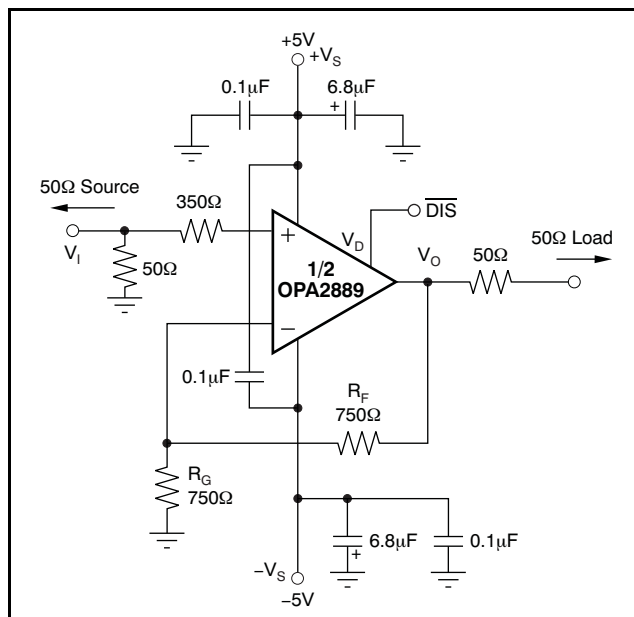
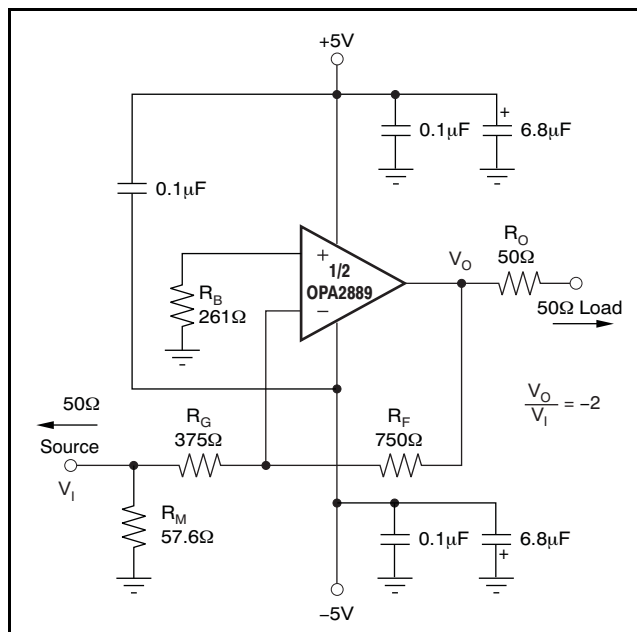

Figure 50. DC-Coupled, G = +2, Bipolar Supply, Specification and Test Circuit
Figure 60. Gain of $-2V/V$ Example Circuit
At $T_A = +25^\circ C$, $G = +2V/V$, $R_F = 750\Omega$, and $R_L = 100\Omega$, unless otherwise noted. See Figure 50.
Figure 50 shows the dc-coupled, gain of +2V/V, dual power-supply circuit configuration used as the basis of the ± 5 V Electrical Characteristics and ± 5 V Typical Characteristics. This illustration is for one channel; the other channel is connected similarly. For test purposes, the input impedance is set to 50 Ω with a resistor to ground and the output impedance is set to 100 Ω . Voltage swings reported in the Electrical Characteristics are taken directly at the input and output pins, while output powers (dBm) are at the matched 50 Ω load. For the circuit of Figure 50, the total effective load will be 100 Ω || 1.5k Ω . The disable control line (MSOP-10 package only) is typically left open for normal amplifier operation. Two optional components are included in Figure 50. An additional resistor (350 Ω) is included in series with the noninverting input. Combined with the 25 Ω dc source resistance looking back towards the signal generator, this resistor gives an input bias current cancelling resistance that matches the 375 Ω source resistance seen at the inverting input (see the DC Accuracy and Offset Control section). In addition to the usual power-supply decoupling capacitors to ground, a 0.1 μ F capacitor is included between the two power-supply pins. In practical printed circuit board (PCB) layouts, this optional-added capacitor typically improves the 2nd-harmonic distortion performance by 3dB to 6dB.
A good rule of thumb is to target the parallel combination of R_F and R_G (see Figure 50) to be less than approximately 400Ω. The combined impedance $R_F \parallel R_G$ interacts with the inverting input capacitance, placing an additional pole in the feedback network and thus, a zero in the forward response. Assuming a 2pF total parasitic on the inverting node, holding $R_F \parallel R_G < 400\Omega$ keeps this pole above 160MHz. By itself, this constraint implies that the feedback resistor R_F can increase to several kΩ at high gains. This increase in resistor size is acceptable as long as the pole formed by R_F and any parasitic capacitance appearing in parallel is kept out of the frequency range of interest.
Voltage-feedback op amps exhibit decreasing closed-loop bandwidth as the signal gain increases. In theory, this relationship is described by the Gain Bandwidth Product (GBP) shown in the Electrical Characteristics. Ideally, dividing GBP by the noninverting signal gain (also called the Noise Gain, or NG) predicts the closed-loop bandwidth. In practice, this principle only holds true when the phase margin approaches 90°, as it does in high gain configurations. At low gains (increased feedback factors), most amplifiers exhibit a more complex response with lower phase margin. The OPA2889 is compensated to give a slightly peaked response in a noninverting gain of 2V/V (see Figure 50). This compensation results in a typical gain of +2V/V bandwidth of 60MHz, far exceeding that predicted by dividing the 75MHz GBP by 2. Increasing the gain causes the phase margin to approach 90° and the bandwidth to more closely approach the predicted value of (GBP/NG). At a gain of +10, the 8MHz bandwidth shown in the Electrical Characteristics agrees closely with that predicted using the simple formula and the typical GBP of 75MHz.
The frequency response in a gain of +2V/V may be modified to achieve exceptional flatness simply by increasing the noise gain to 2.5V/V. One way to modify the response without affecting the +2V/V signal gain, is to add a 750Ω resistor across the two inputs, as shown in the circuit of Figure 50. A similar technique may be used to reduce peaking in unity-gain (voltage follower) applications. For example, by using a 750Ω feedback resistor along
The OPA2889 is a general-purpose, wideband, voltage-feedback op amp; therefore, all of the familiar op amp application circuits are available to the designer. Inverting operation is one of the more common requirements and offers several performance benefits. See Figure 60 for a typical inverting configuration where the I/O impedances and signal gain from Figure 50 are retained in an inverting circuit configuration.
In the inverting configuration, three key design considerations must be noted. The first is that the gain resistor (R_G) becomes part of the signal channel input impedance. If input impedance matching is desired (which is beneficial whenever the signal is coupled through a cable, twisted-pair, long PCB trace, or other transmission line conductor), R_G may be set equal to the required termination value and R_F adjusted to give the desired gain. This consideration is the simplest approach and results in optimum bandwidth and noise performance. However, at low inverting gains, the resultant feedback resistor value can present a significant load to the amplifier output. For an inverting gain of $-2V/V$, setting R_G to 50Ω for input matching eliminates the need for R_M but requires a 100Ω feedback resistor. This approach has the interesting advantage that the noise gain becomes equal to $2V/V$ for a 50Ω source impedance—the same as the noninverting circuits considered in Figure 60. The amplifier output, however, now sees the 100Ω feedback resistor in parallel with the external load. In general, the feedback resistor should be limited to the 200Ω to 1.5kΩ range. In this case, it is preferable to increase both the R_F and R_G values (see Figure 60), and then achieve the input matching impedance with a third resistor (R_M) to ground. The total input impedance becomes the parallel combination of R_G and R_M .
The second major consideration, touched on in the previous paragraph, is that the signal source impedance becomes part of the noise gain equation and influences the bandwidth. For the example in Figure 60, the R_M value combined in parallel with the external 50Ω source impedance yields an effective driving impedance of $50Ω \parallel 57.6Ω = 26.7Ω$. This impedance is added in series with R_G for calculating the noise gain (NG). The resulting NG is $2.86V/V$ for Figure 60, as opposed to only $2V/V$ if R_M could be eliminated as discussed above. Therefore, the bandwidth is slightly lower for the gain of $-2V/V$ circuit of Figure 60 than for the gain of $+2V/V$ circuit of Figure 50.
The third important consideration in inverting amplifier design is setting the bias current cancellation resistor on the noninverting input (R_B). If this resistor is set equal to the total dc resistance looking out of the inverting node, the output dc error, as a result of the input bias currents, is reduced to $(\text{Input Offset Current}) \times R_F$. If the 50Ω source impedance is dc-coupled in Figure 60, the total resistance to ground on the inverting input is 402Ω.
The OPA2889 provides good distortion performance into a 200Ω load on $\pm 5V$ supplies. Relative to alternative solutions, it provides exceptional performance into lighter loads and/or operating on a single +5V supply. Generally, until the fundamental signal reaches very high frequency or power levels, the 2nd-harmonic dominates the distortion with a negligible 3rd-harmonic component. Focusing then on the 2nd-harmonic, increasing the load impedance improves distortion directly. Remember that the total load includes the feedback network; in the noninverting configuration (see Figure 50), this total is the sum of $R_F + R_G$, while in the inverting configuration it is just R_F . Also, providing an additional supply-decoupling capacitor ($0.1\mu F$) between the supply pins (for bipolar operation) improves the 2nd-order distortion slightly (3dB to 6dB). Operating differentially also lowers 2nd-harmonic distortion terms (see the plot on the front page).
Evaluating these two equations for the OPA2889 circuit and component values (see Figure 50) gives a total output spot noise voltage of 18.2nV/√Hz and a total equivalent input spot noise voltage of 9.1nV/√Hz. This total includes the noise added by the bias current cancellation resistor (350Ω) on the noninverting input. This total input-referred spot noise voltage is slightly higher than the 8nV/√Hz specification for the op amp voltage noise alone. This result is the case as long as the impedances appearing at each op amp input are limited to the
previously recommend maximum value of 400Ω. Keeping both ($R_F \parallel R_G$) and the noninverting input source impedance less than 400Ω satisfies both noise and frequency response flatness considerations. Because the resistor-induced noise is relatively negligible, additional capacitive decoupling across the bias current cancellation resistor (R_B) for the inverting op amp configuration of Figure 60 is not required.
The balanced input stage of a wideband voltage-feedback op amp allows good output dc accuracy in a wide variety of applications. The power-supply current trim for the OPA2889 gives even tighter control than comparable amplifiers. Although the high-speed input stage does require relatively low $\pm 0.75\mu A$ input bias current, the close matching between them may be used to reduce the output dc error caused by this current. The total output offset voltage may be reduced by matching the dc source resistances appearing at the two inputs. This matching reduces the output dc error resulting from the input bias currents to the offset current times the feedback resistor. Evaluating the configuration of Figure 50, and using worst-case +25°C input offset voltage and current specifications, gives a worst-case output offset voltage equal to: